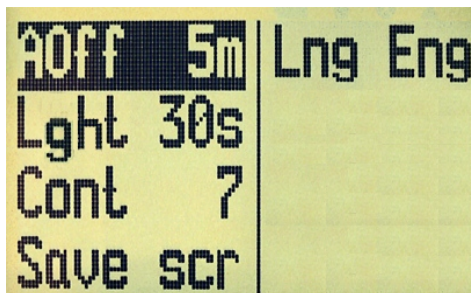

Fig. 9
6.17 The device has a Service menu. To enter the Service menu, press the buttons "▽" and "+" simultaneously (Fig.9). The parameters of the Service menu are selected and set in the same way as in the device's main Menu (to select a parameter, use the buttons "▽" and "▲", and to set the required value, use the buttons "+" and "-"). When no buttons are pressed within 2 seconds, the device switches to the previous mode, and the value of the highlighted parameter is saved in the permanent memory of the device. If the value has been changed, then a multitone beep will sound.